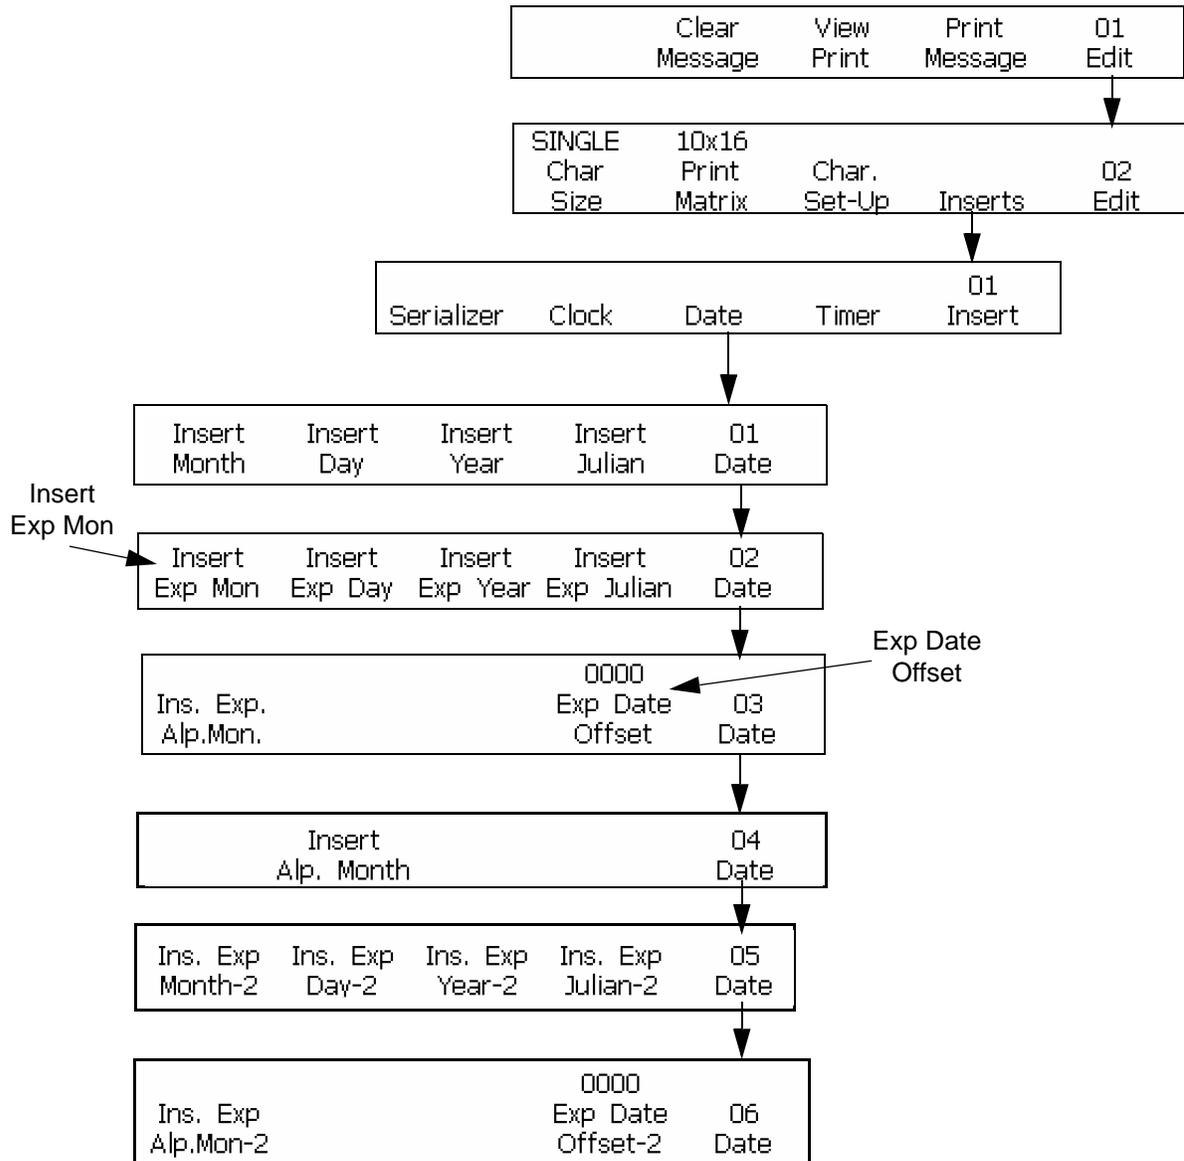

Figure 6-35: Accessing Frame <03 DATE>
- 1 Begin in the Frame <02 Date>. Refer to Figure 6-35 on page 6-43.
- 4 Press F5 to go to Frame <03 Date>. Refer to Figure 6-35 on page 6-43.